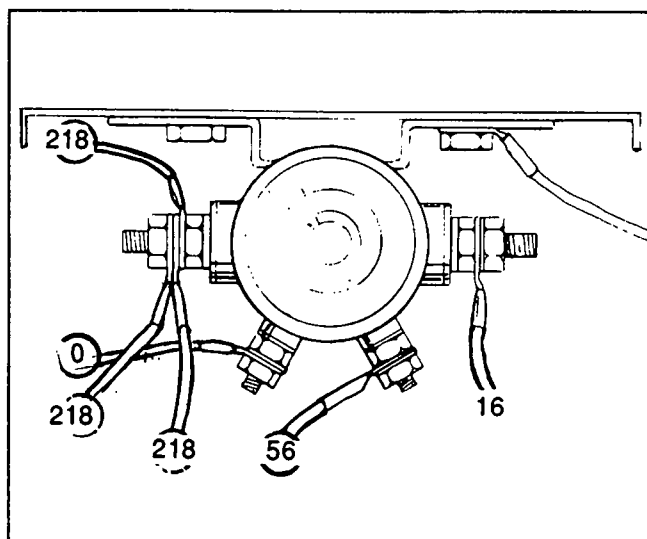

Figure 6. Control Contactor- 24 Volts DC Systems
24 Volts Engine Electrical Systems: See Figure 6. Battery voltage (24 volts DC) is available to one of the large terminal studs via Wire 218. When the DC control board's crank relay (K1) is energized, 12 volts DC is delivered to the contactor via Wire 56. The contactor's normally-open contacts close to deliver 24 volts DC to the starter solenoid (SC) via Wire 16.